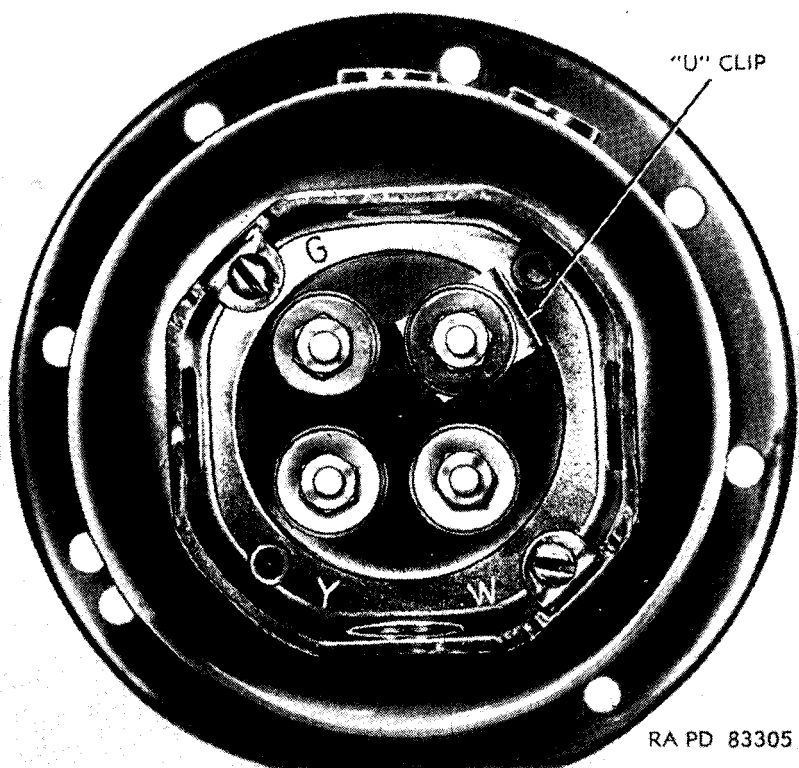

Figure 177. Stabilizer oil pump terminals.
(1) Press the button marked "Breech Up"; the breech of the gun should rise rapidly.
(2) Press the button marked "Breech Down"; the breech of the gun should drop rapidly.
(3) If the gun does not respond to button in either (1) or (2) above, replace the oil pump assembly (par. 209*a*(7)).
(4) If the movement of the breech is opposite to that stated in either (1) or (2) above, interchange the yellow and green leads in the terminal box of the oil pump assembly (par. 209*a*(7)) (fig. 177).